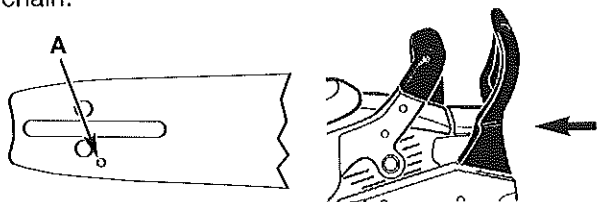
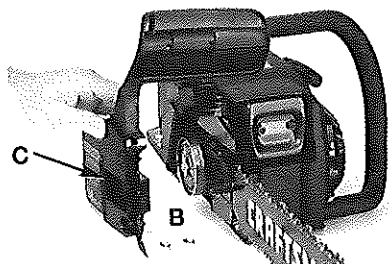
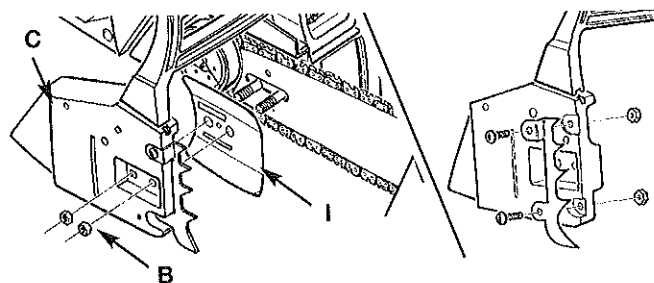
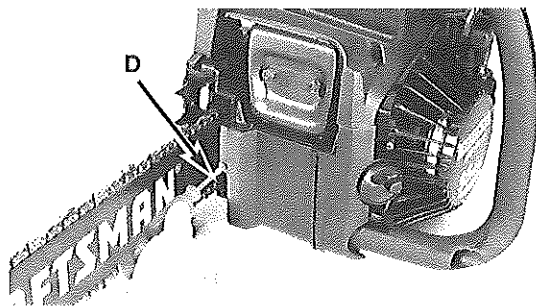

Fig. 21
Fig. 22
Fig. 27
Fig. 28
CAUTION: To ensure the bar and chain receive oil, **ONLY** USE THE ORIGINAL STYLE BAR with the oil passage hole (A) as illustrated in Fig. 21.
1. Make sure the Chain Brake® lever is pulled back into the DISENGAGED position (Fig. 21). Remove bar retaining nuts (B, Fig. 22) with supplied multi-purpose tool
2. Remove chain brake cover (C, Fig. 22) and outer guide bar plate (I, Fig. 27) by pulling straight out (Fig. 22).
6. Replace the outer guide bar plate (I) so the bent edges (top and bottom) are directed away from the chain (Fig. 27).
7. Install the Chain Brake® cover (C, Fig. 27). Make sure the chain does not slip off of the bar. Install the 2 bar retaining nuts hand tight and follow instructions in Saw Chain Tension Adjustment.
1. Loosen the bar retaining nut(s) (B, Fig. 27). Hold nose of guide bar up and turn adjustment screw (D) CLOCKWISE to increase chain tension. Turning screw COUNTERCLOCKWISE will decrease amount of tension on chain. Ensure the chain fits snugly all the way around the guide bar (Fig. 28).